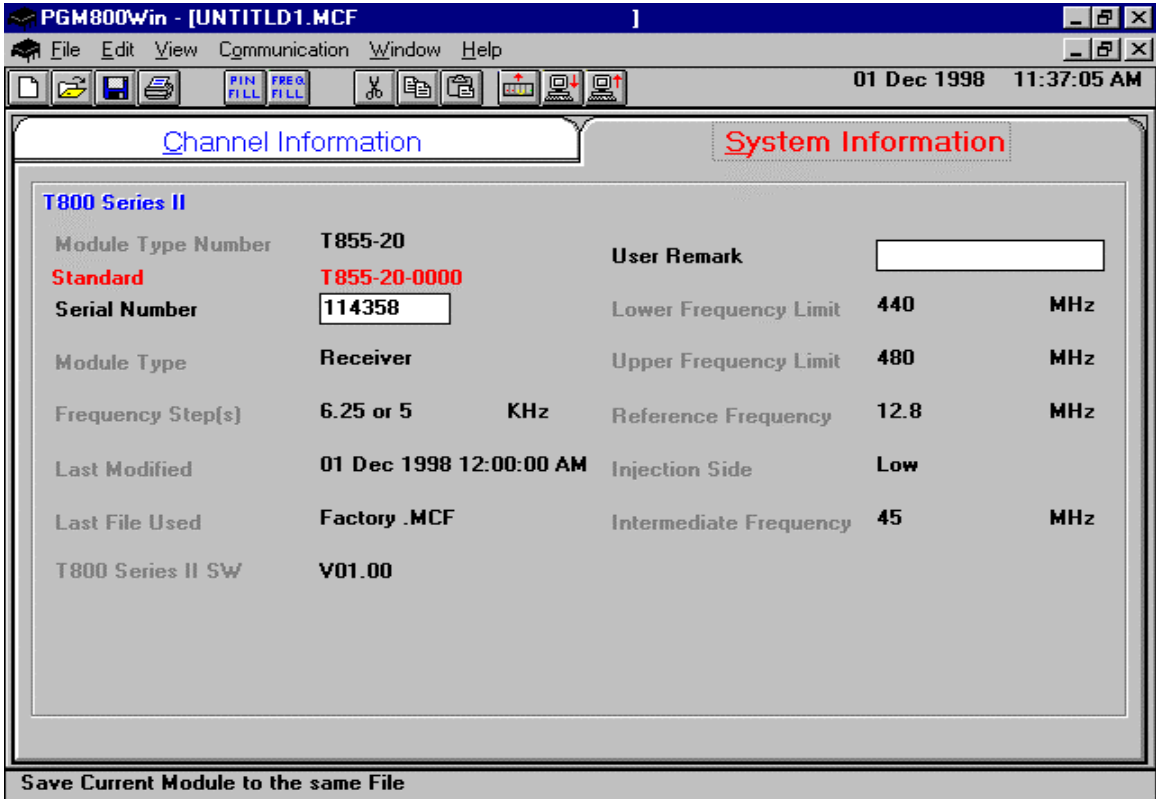
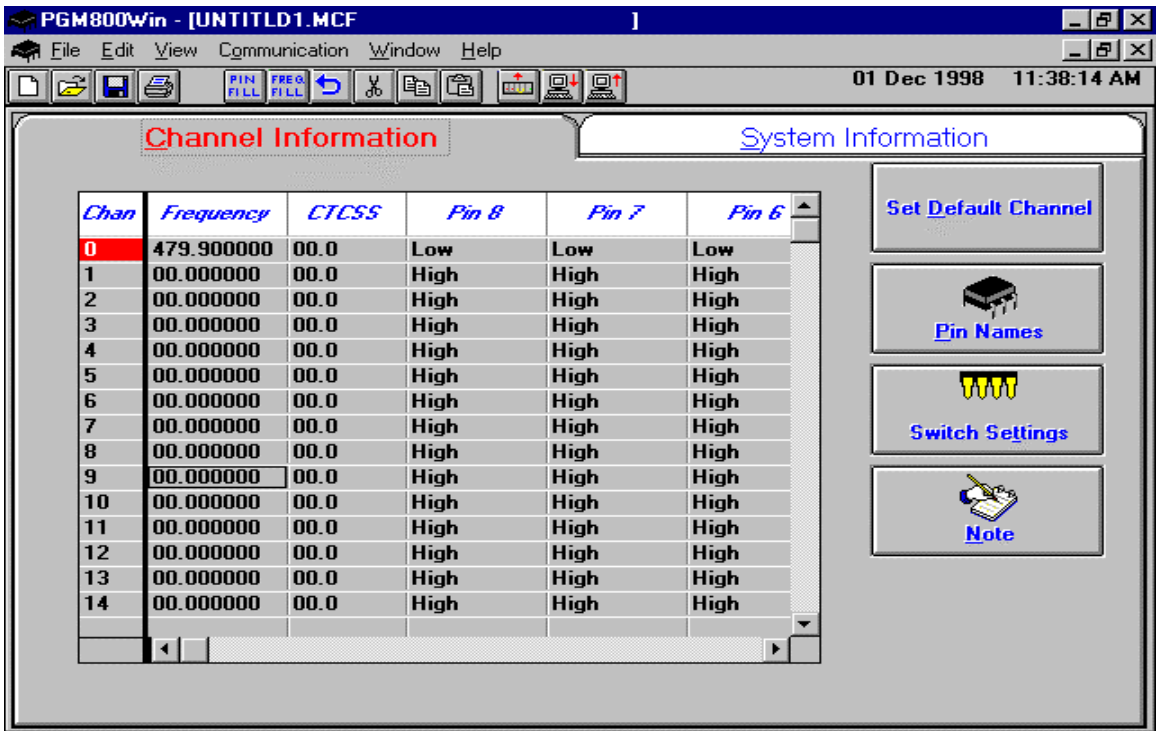

Figure 13 - Receiver System Information Sample
Figure 14 - Receiver Channel Information Sample
- Refer to Figure 13, Figure 14, Figure for screen program examples.